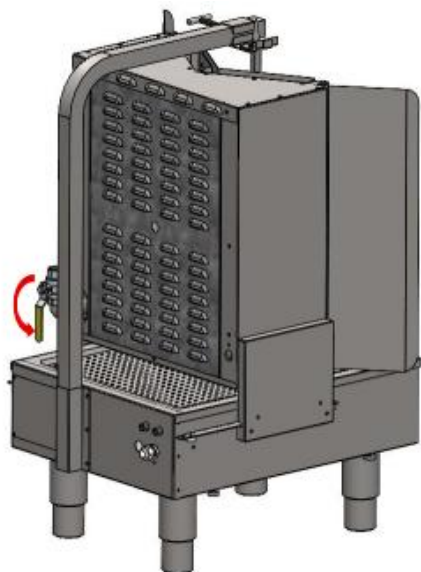

FIGURE-1
1. Close the gas valve of the product, (Figure-1)